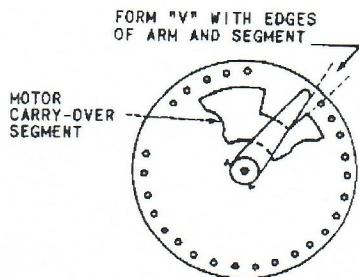
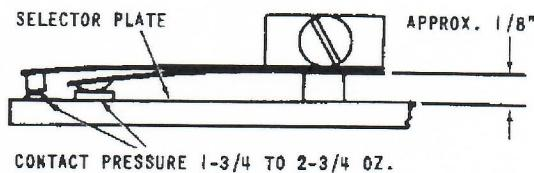

Figure 10.
Figure 11.
2. Set the Contact Arm on the shaft so the edge of the blade forms a "V" with the edge of the motor carry-over segment as shown in *Figure 10*, and the lower part of the hub is spaced approximately  $1/8''$  from the surface of the selector plate as shown in *Figure 11*.